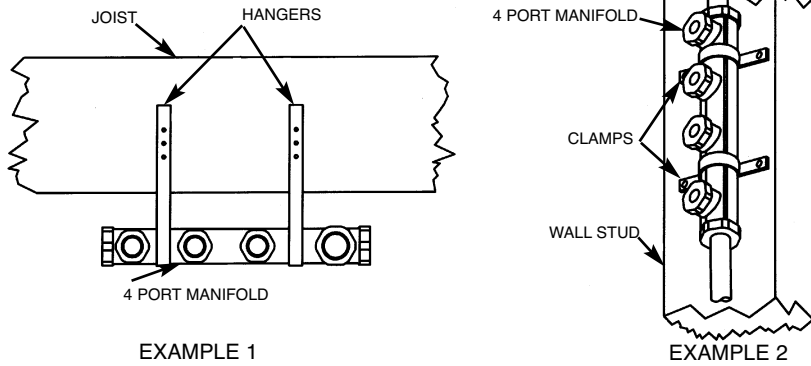

Figure 4.38
- Affix the manifold assembly to floor joists, wall studs, etc., with hangers, straps, pipe support, U-clamps, etc. (See Figure 4.38).